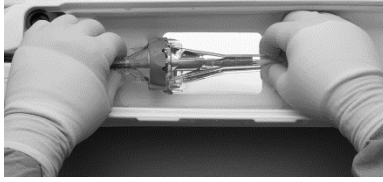

Figure 44
14. While holding the capsule guide tube stationary, advance the inflow cone to crimp the inflow portion of the bioprosthesis frame until the outflow cone contacts the capsule guide tube (Figure 44).